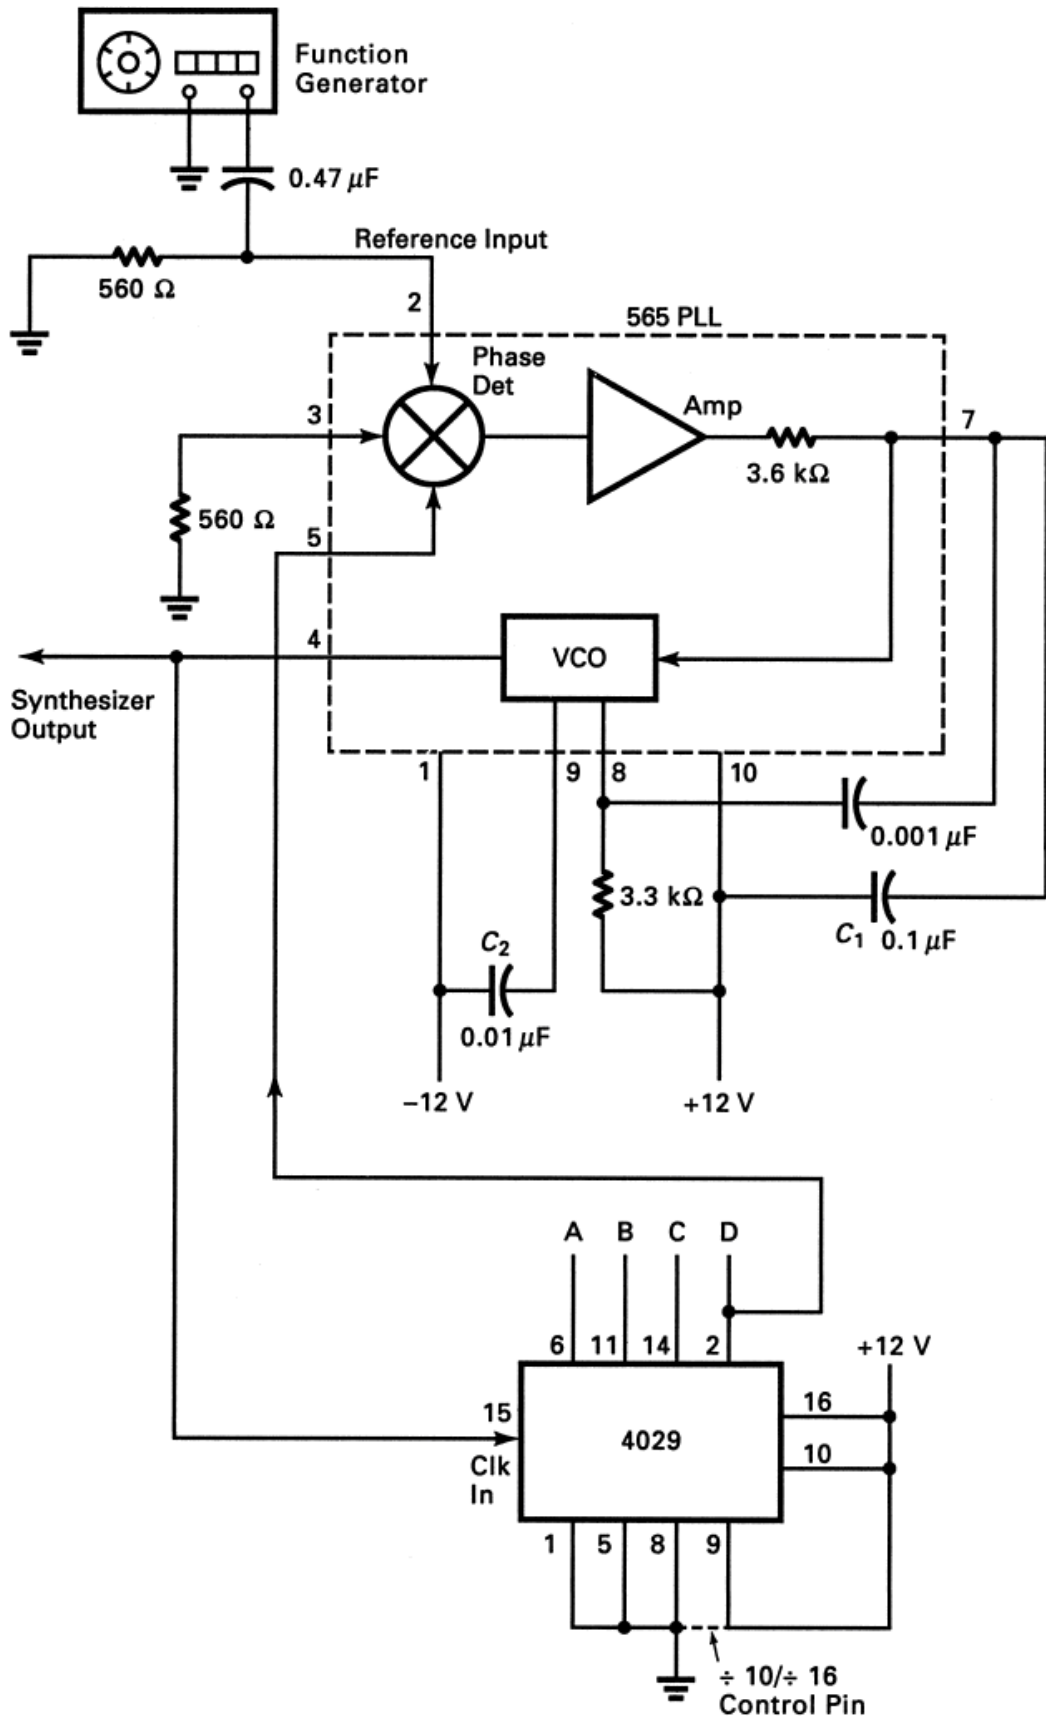

Fig. 9-3 PLL synthesizer experimental circuit.
1. Construct the circuit shown in Fig. 9-3. This is the PLL circuit you used in Project 9-1, but note the different R and C values. You will use a 600-Hz input square-wave signal from an external function generator as the reference signal. Initially you will use a frequency divider made up of a 4029 CMOS counter. Pin 9 on the 4029 determines whether the count is pure binary (pin 9 at +12 V) or BCD (pin 9 at ground).
2. Determine the frequency division factor of the 4029. Record the result. Check the state of pin 9 in Fig. 9-3; then assume 4-bit operation with the output taken from pin 2.
3. Examine the circuit shown in Fig. 9-3 and predict the output frequency of the VCO. Record your prediction.